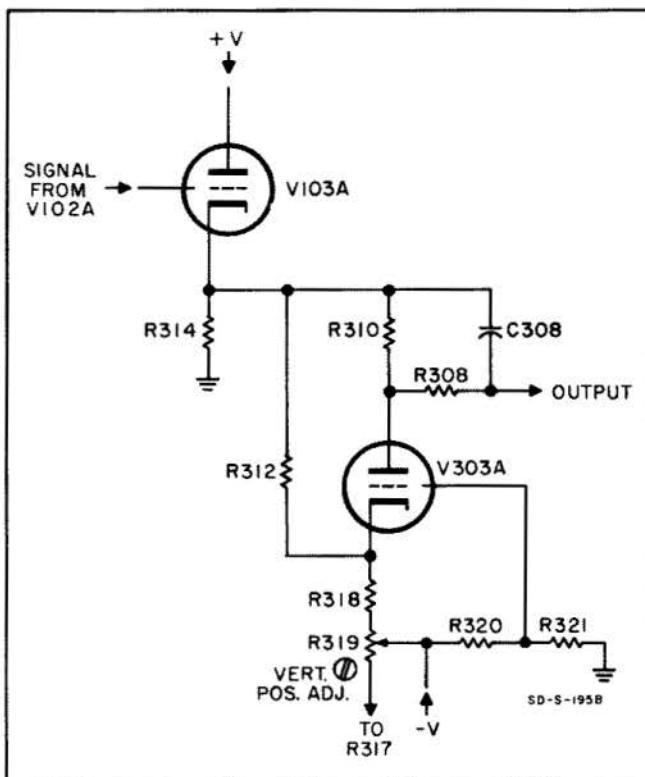

Figure 4-4. Constant Current Generator
**4-11. CONSTANT CURRENT GENERATOR.** The ac signal is coupled to the output through C307 and C308, but the dc signal is reduced in level from +75 volts at the cathode of V103A to approximately zero volts at the output. Referring to figure 4-4, the grid of V303A is biased by voltage divider R320-321 to -32 volts. This fixed bias, along with cathode bias resistor R318, regulates the tube at a constant plate current. Since V303A draws constant current through R310, an increase in dc level will not change the drop across R310 and the dc signal will appear at the output unattenuated. Positive feedback from the input through R312 compensates for the voltage division by R308 and the 1 megohm resistor in the input of the main vertical amplifier. R308 isolates the output from the capacitance of V303A.